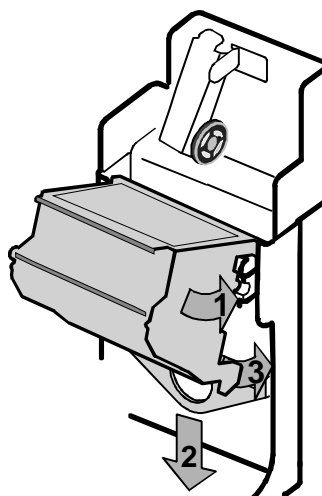

Figure 4-14: Secure the printhead cartridge
- 6 Align the notches on the printhead cartridge with the notches on the spring bar (1 in Figure 4-14).
- 7 Hold the printhead cartridge latch lever down (step 2 in Figure 4-14) and pivot the printhead cartridge down toward the swing arm (step 3 in Figure 4-14). Release the latch lever when the printhead cartridge is in place.